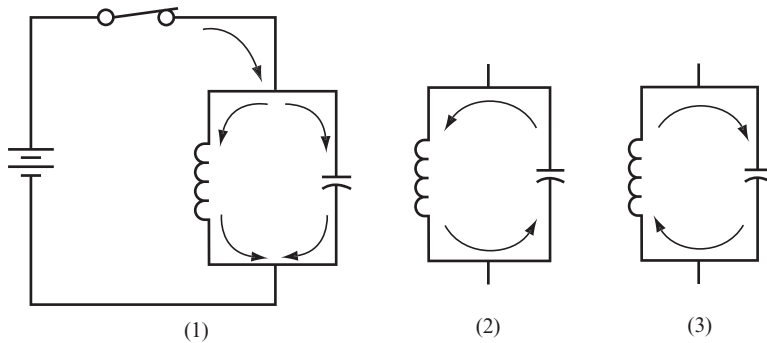

FIGURE 7.44
30 When the switch in the circuit shown in drawing (1) of Figure 7.44 is closed, current flows through both sides of the parallel LC circuit in the direction shown.
It discharges through the inductor. (Note the current direction, shown in drawing [2] of Figure 7.44.)
32 Because there is no current in the inductor, its magnetic field collapses. The collapsing of the magnetic field induces a current to flow in the inductor, and this current flows in the same direction as the original current through the inductor (remember that an inductor resists any change in current flow), which is shown in drawing (2) of Figure 7.44. This current now charges the capacitor to a polarity that is opposite from the polarity that the battery induced.
33 Next, the capacitor discharges through the inductor again, but this time the current flows in the opposite direction, as shown in drawing (3) of Figure 7.44. The change in current direction builds a magnetic field of the opposite polarity. The magnetic field stops growing when the capacitor is fully discharged.
Because there is no current flowing through the inductor, its magnetic field collapses and induces current to flow in the direction shown in drawing (3) of Figure 7.44.
34 When the field has fully collapsed, the capacitor stops charging. It now begins to discharge again, causing current to flow through the inductor in the direction shown in drawing (2) of Figure 7.44. This “seesaw” action of current will continue indefinitely.
This lost energy can be injected into the circuit by momentarily closing and opening the switch at the correct time. (See drawing [1] of Figure 7.44.) This would sustain the oscillations indefinitely.